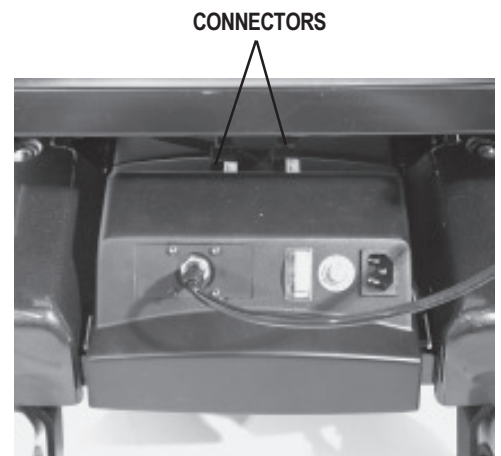

Figure 22. Rear Electronics Tray
4. Connect the 4-conductor power cable connectors from the front and rear battery cases to the electronics tray. Push the connector firmly and fully into the socket. See figure 22.